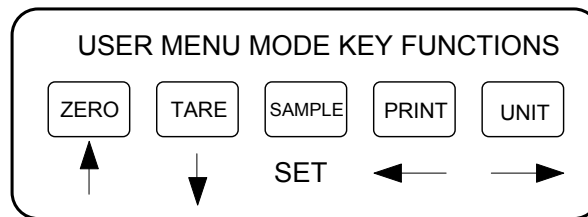
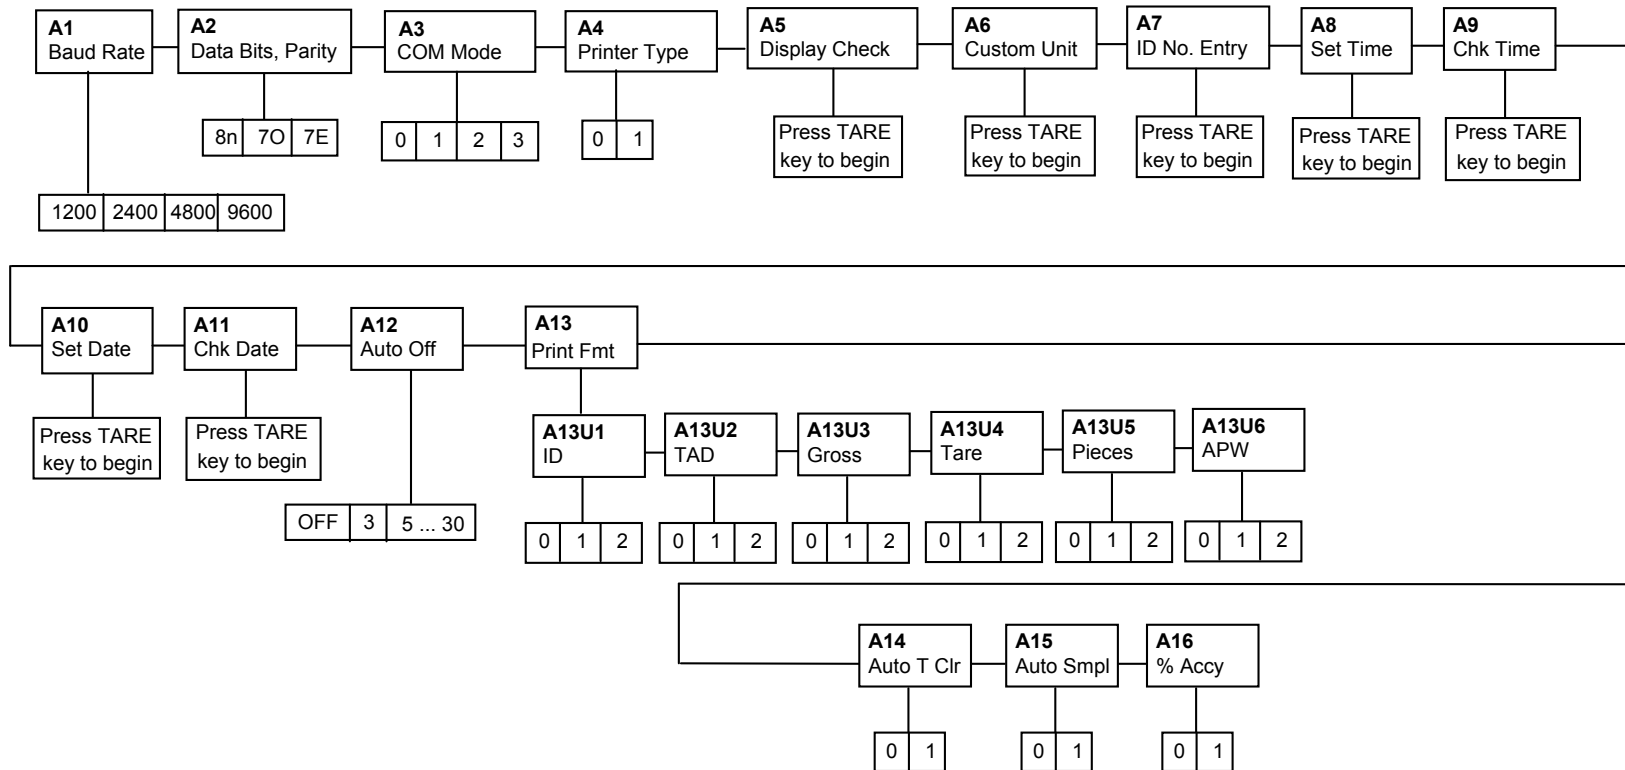

Figure 5-1: User Menu Key Assignments
Figure 5-2: User Menu Chart
Use the directional keys shown in Figure 5-1 to move around in the User Menu Chart shown in Figure 5-2 on the following page. Detailed descriptions of the User Menu can be found in Table 5-1.
3. Use the left or right directional keys (shown in Figure 5-1 above) to move the decimal point position to the correct position. Pressing the PRINT key or the UNIT key will change the position of the decimal point.
6. Use the four directional keys (shown in Figure 5-1 above) to adjust the displayed value to the actual custom unit multiplier value. Increase the flashing digit by pressing the ZERO key. Decrease the flashing digit by pressing the TARE key. Pressing the PRINT key or the UNIT key will change the position of the flashing digit.
3. Use the four directional keys (shown in Figure 5-1 above) to adjust the displayed value to the actual ID Number value. Increase the flashing digit by pressing the ZERO key. Decrease the flashing digit by pressing the TARE key. Pressing the PRINT key or the UNIT key will change the position of the flashing digit.
3. Use the four directional keys (shown in Figure 5-1 above) to adjust the displayed value to the actual time value. Increase the flashing digit by pressing the ZERO key. Decrease the flashing digit by pressing the TARE key. Pressing the PRINT key or the UNIT key will change the position of the flashing digit.
3. Use the four directional keys (shown in Figure 5-1 above) to adjust the displayed value to the actual date value. Increase the flashing digit by pressing the ZERO key. Decrease the flashing digit by pressing the TARE key. Pressing the PRINT key or the UNIT key will change the position of the flashing digit.